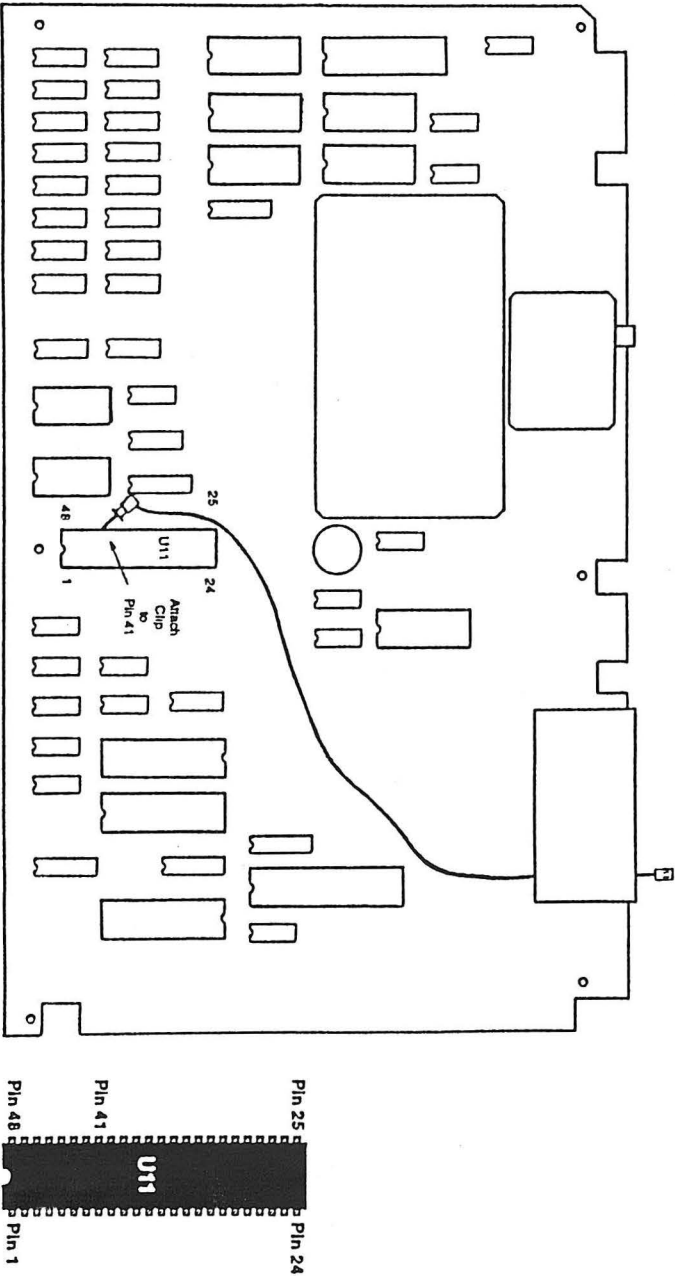

Figure 1
10. Locate the PLA chip which is the integrated circuit labeled U11. Attach the clip to pin 41 of this IC as shown in Figure 1.
9. Locate the PLA chip which is the integrated circuit labeled U11. Attach the clip to pin 41 of this IC as shown in Figure 1.